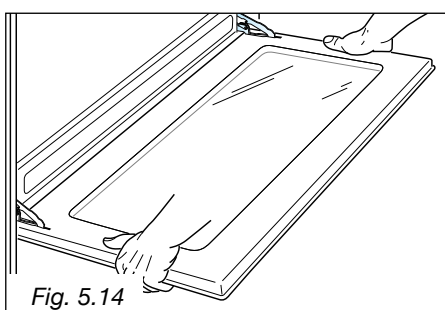

Fig. 5.14
- Hold the door as shown in fig. 5.14.